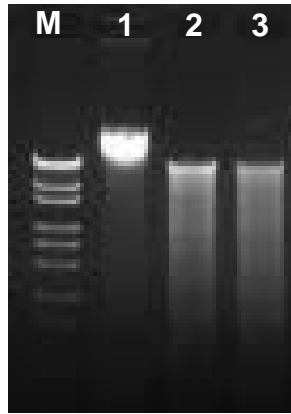

Figure 1. Digestion of genomic DNA. 1. Undigested genomic DNA, 2. Fairly digested genomic DNA, 3. Completely digested genomic DNA
2. The next morning run 1/10 (2.5 μl) of the reaction on a 0.8% agarose minigel to check digestion. Completely digested DNA should appear as an even smear (Fig. 1). Often there are brighter bands within the smear, these are repetitious sequences, not artefacts.